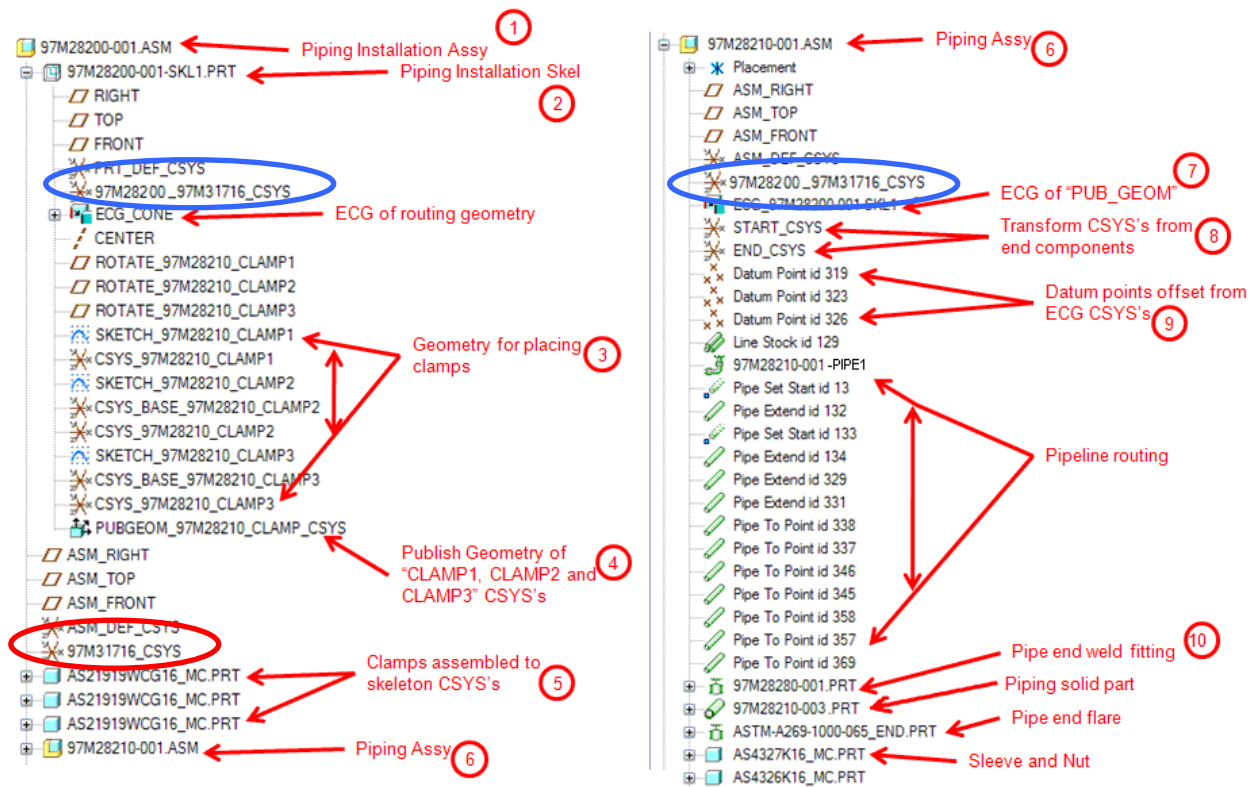

Figure 1
- 4.2.2 Create a new Installation Assembly and create a CSYS on top of the ASM_DEF_CSYS and name it to match the locating CSYS. (see Figure 1 circled in red)
- 4.2.5 If the installation assembly is simple, a transformed CSYS should be created at the mounting location for the end fittings or at the entry ports of the components to be used as the "START_CSYS" and "END_CSYS". If the installation assembly has many piping assemblies, it is easier to keep the assemblies separate by creating the "START_CSYS" and "END_CSYS" in the individual piping assemblies. (see #8 in Figure 1, refer to Appendix A for further information)
- 4.2.6 Create any needed geometry for locating the mounting hardware. (ex. planes, CSYS's, sketch). Repeat for every piping assembly that will be located in the Installation assembly. (see #3 in Figure 1, refer to Appendix A for further information)
- 4.2.7 Create a "publish_geom" feature of all CSYS's and other needed geometry for each individual piping assembly. (see #4 in Figure 1, refer to Appendix A for further information)
- 4.3.2 Activate the Piping Assembly, create a CSYS on top of the ASM_DEF_CSYS and name it to match the Installation Assembly and the locating CSYS (see Figure 1 circled in blue), and then create an "external copy_geom" feature of the "publish_geom" from the Installation assembly skeleton, located at the default CSYS. By using "publish_geom" and leaving it "dependent", (until ready to release), any information in the "publish_geom" will propagate to and update the pipe routing. The use of transformed CSYS's requires a manual update of the CSYS's.